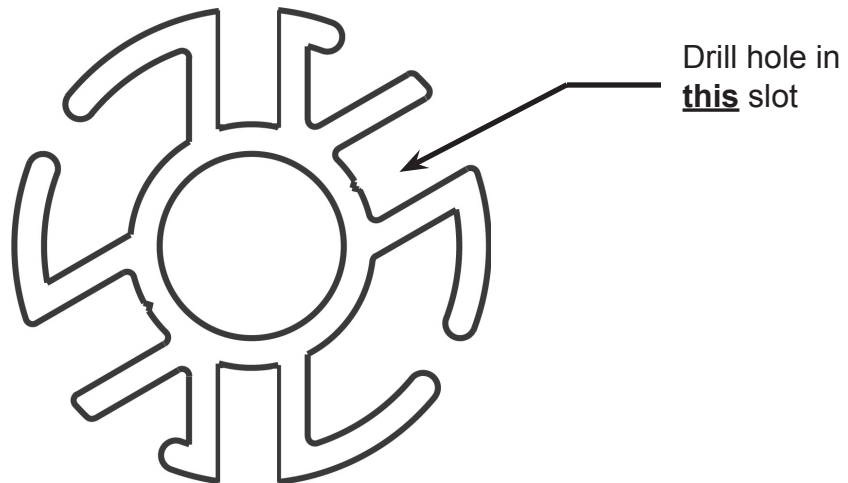

Figure 1
- 3) Drill a 3/8" hole, 1/2" from each end of the rollerbar. In the slot shown in Figure 1, slide one end of the rollerbar over the DD motor output shaft and secure with a 5/16" x 2 1/2" carriage bolt, flat washer, and lock nut.